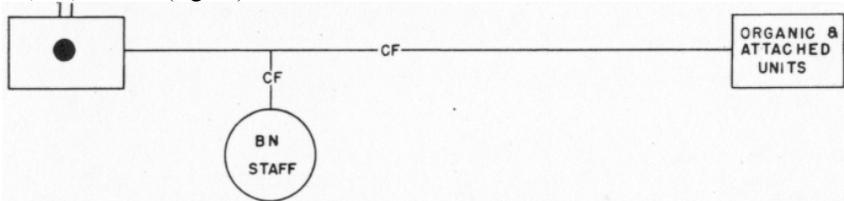
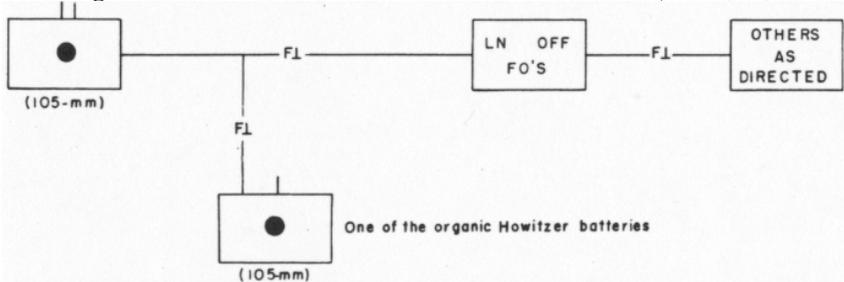

Figure 39. The battalion command/fire direction net, FM (CF).
Figure 40. The battalion fire direction net 1, FM (F1). Nets 2 and 3 are identical.
The 105-mm howitzer battalion of all divisions will utilize a radio system identical to that of the 105-mm howitzer battalion of the current armored division. This system consists of four FM radio nets—the battalion command/fire direction net (CF) (fig 39) and three fire direction nets designated F1, F2, and F3 (fig 40).